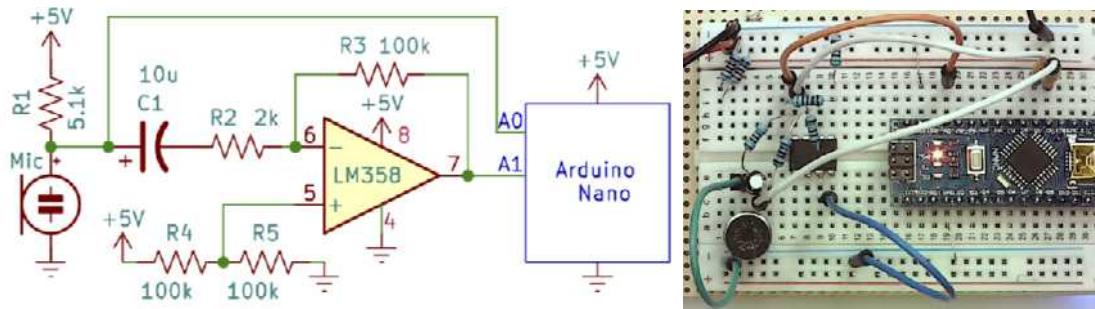
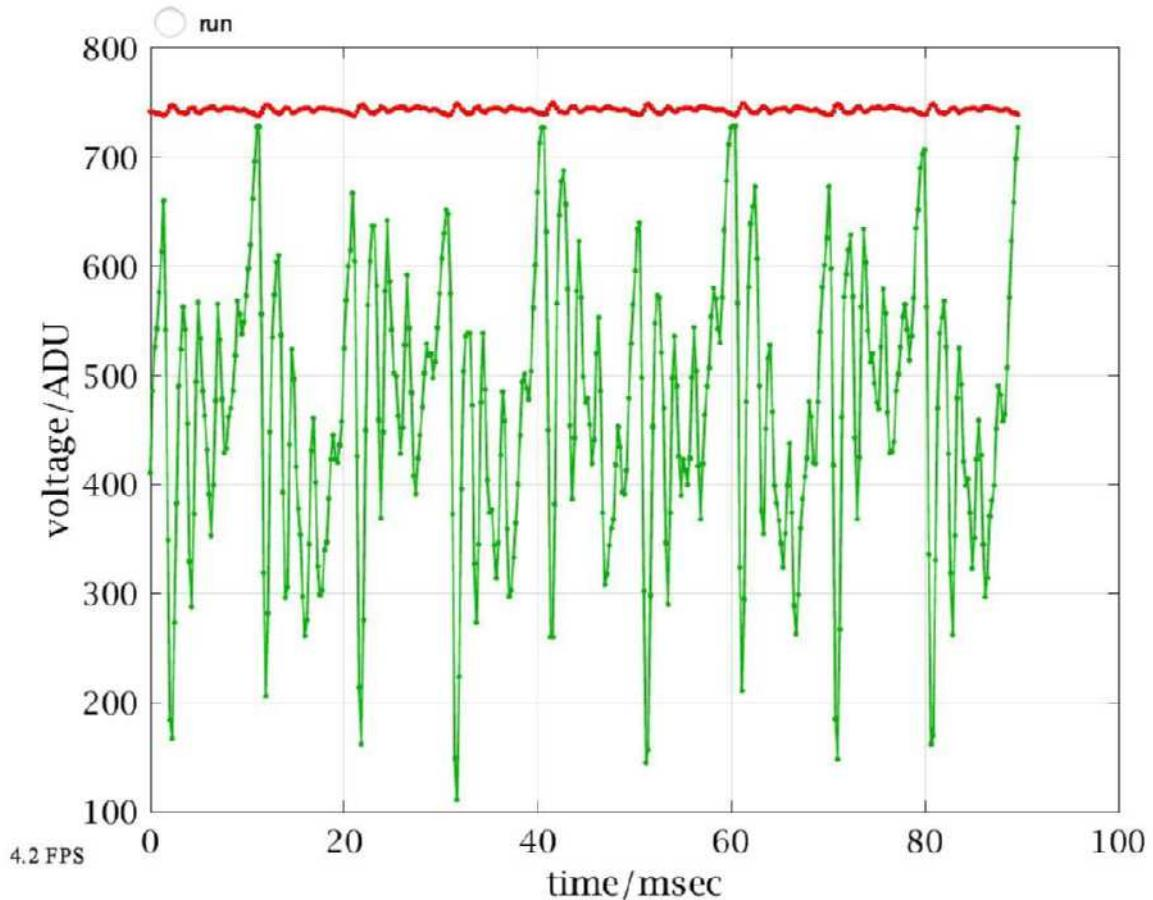
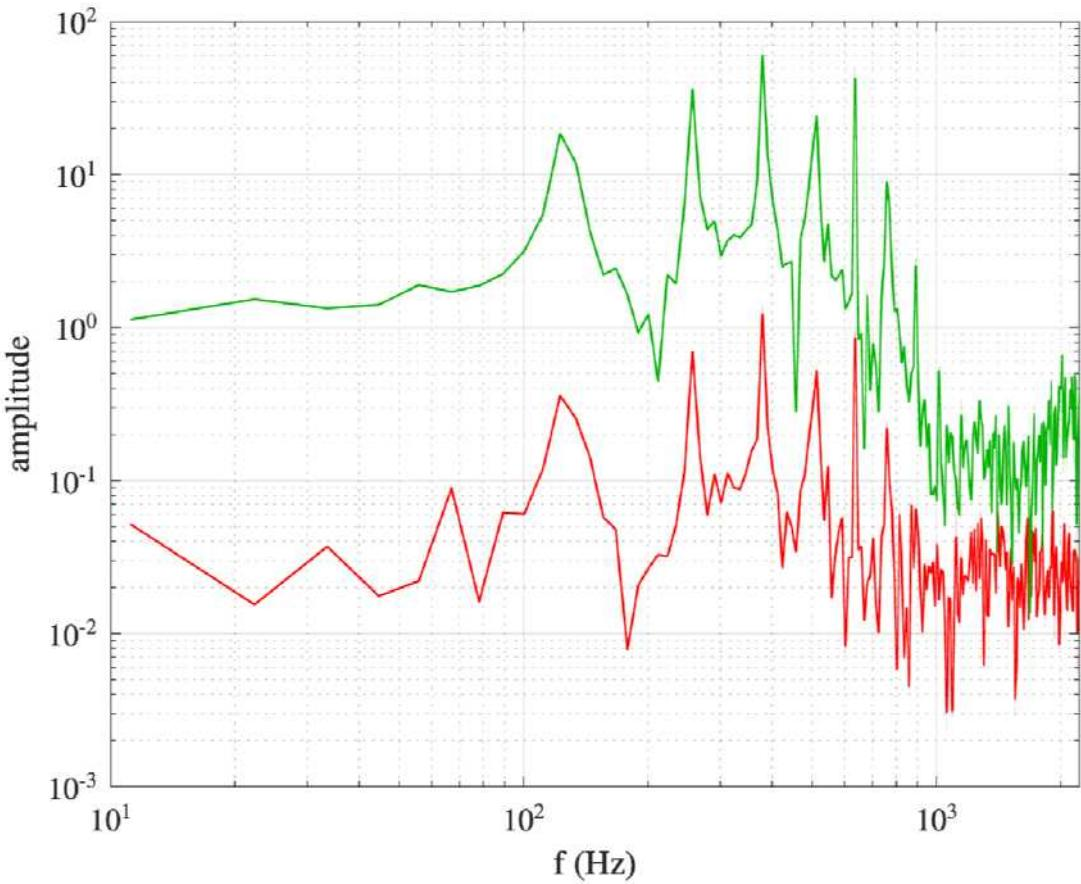

Figure 6. Schematic and photo of amplified microphone. See below for component values.
Figure 7. Typical trace from oscilloscope2 with the circuit in Fig. 6.
Figure 9. Amplitude spectrum (in ADU) of Fig. 7, on log-log axes.
A 20 ADU p-p signal could be amplified by a gain of 50 to fill the dynamic range (DNR) of Arduino's ADC (0-1023). But we'd have to change the DC level to make this work,. If we amplified the signal with its DC value ~ 700 ADU by even 2 times it would saturate the ADC. Likewise, if we removed the DC entirely, then half the signal would be negative and would saturate (or damage) the ADC. Thus we need to *multiply just* the AC signal by 50 and *add* it to a DC offset (called "bias") = $V_{ref}/2$, making the signal symmetrical between 0 and V_{ref} volts = 0-1023 ADU. How to do that? With an op-amp circuit, as in Fig. 6.
An inverting amplifier's gain = - feedback resistance/input resistance = $-R_3 / R_2$ in Fig. 6. With our limited selection of R's, we can achieve gain = $50 = 100\text{k}\Omega / 2\text{k}\Omega$. We've already selected $R_1 = 5.1\text{k}\Omega$. R_4 and R_5 are voltage dividers to set the bias voltage at $V_{cc}/2 \sim 2.5\text{V}$, so they just need to have equal value. No (significant) current flows into the op amp's + and - inputs, so a high value will reduce wasted power.
Common errors are incorrectly numbering the op amp pins, placing a device in an adjacent column of the breadboard, bad jumper wire, forgetting to ground the microphone, Nano, or op amp, or forget to connect top and bottom ground rows on the breadboard. What other mistakes challenged your debugging skills?? When working, the system should display something like Fig. 7 in response to your (loud) voice:
It's hard to see from Fig. 7 whether the green curve = -50 times the red one (ignoring DC). First, we can take the ratio of the two rms values as follows:
Modeling the subtle squiggles of complicated waveforms such as a voice through complex circuits like Fig. 6 is challenging. Again we could in principle integrate differential equations that follow the changing charges, currents, voltages, etc. Or solve the equations algebraically with complex impedances at each frequency using Fourier Analysis. MATLAB offers many functions and toolboxes for frequency domain analysis and most importantly, it "understands" complex algebra, so we don't have to worry about the mechanics. We'll spend the next couple of weeks learning to navigate this mathematical space, but for introduction, let's look at Fig. 7 data in the frequency domain – which means instead of plotting voltage vs. time, plot voltage vs. frequency, using the Fourier transform to extract from Fig. 7 each frequency component's amplitude. Fig. 9 show half of the frequency domain data – the amplitudes. The other half are phases, and in signals like this are seemingly random even though they contain key information about the signal. Decades ago I wrote a function I called `aspectrum` to visualize digital time series in the frequency domain. It requires the sample rate which we'll compute first:
- Signal to noise ratio (SNR) can be estimated ideally by measuring the spectrum of noise without any signal and comparing it to Fig. 9. But we might guess from Fig. 9 a constant noise "floor" at the level of the right hand side extending back to the fundamental, which suggests the amplified (green) SNR at the peak amplitude (500Hz) $\sim 200/1$, vs. (red) $2/5e-2 = 40$. Thus the op-amp circuit improved the SNR by ~ 5 times, not 50 times because it's also amplifying the noise.